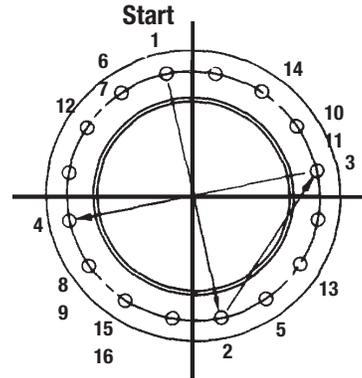

Fig. 4
5. Tighten remaining nuts evenly, following bolting instructions (Fig. 4), so that the flange faces remain parallel. Flange bolts should be tightened to 70 ft./lbs. torque minimum to assure firm metal-to-metal contact. When raised face flanges are used, there will be a gap between the faces of the outer diameter.